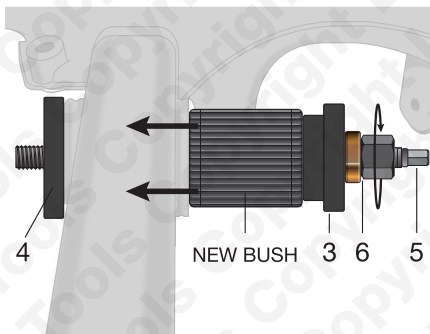

Fig 3
2. Assemble puller tool and the new bush as indicated in **Figure 3**.
3. **Important:** Lubricate the force screw (5) and force nut/thrust bearing (6) with black molybdenum disulphide grease.